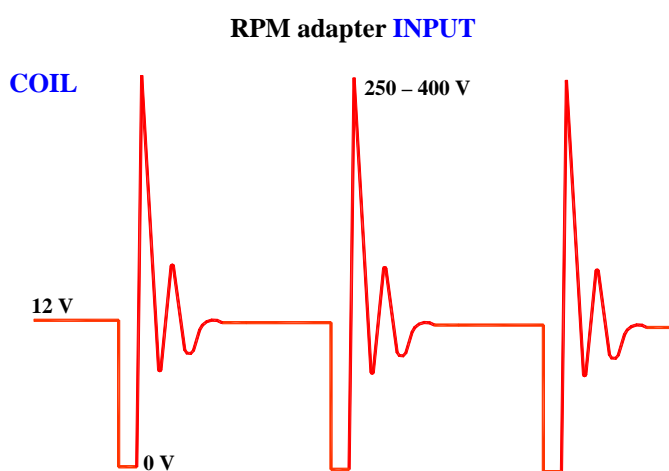

Figure 2: RPM signal out-coming from the COIL
- Figure 2: RPM signal out-coming from the coil;